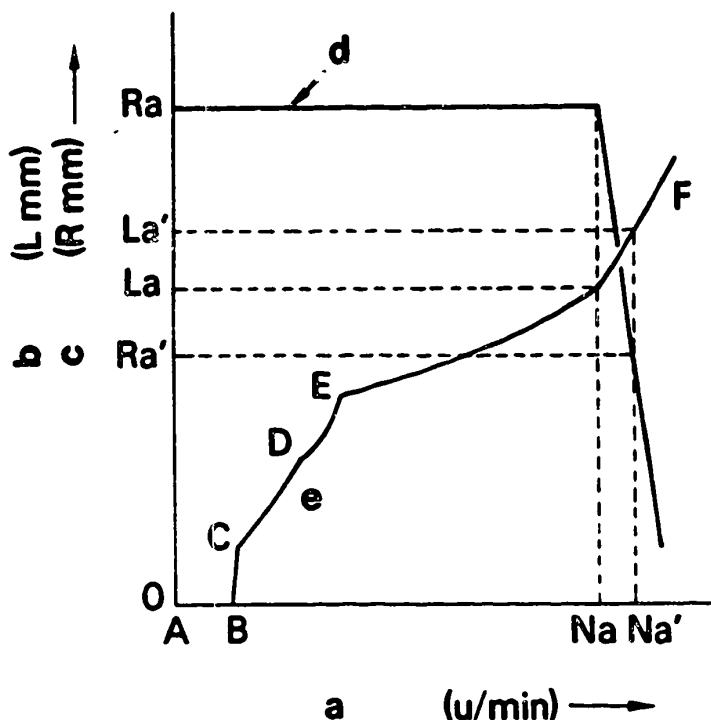
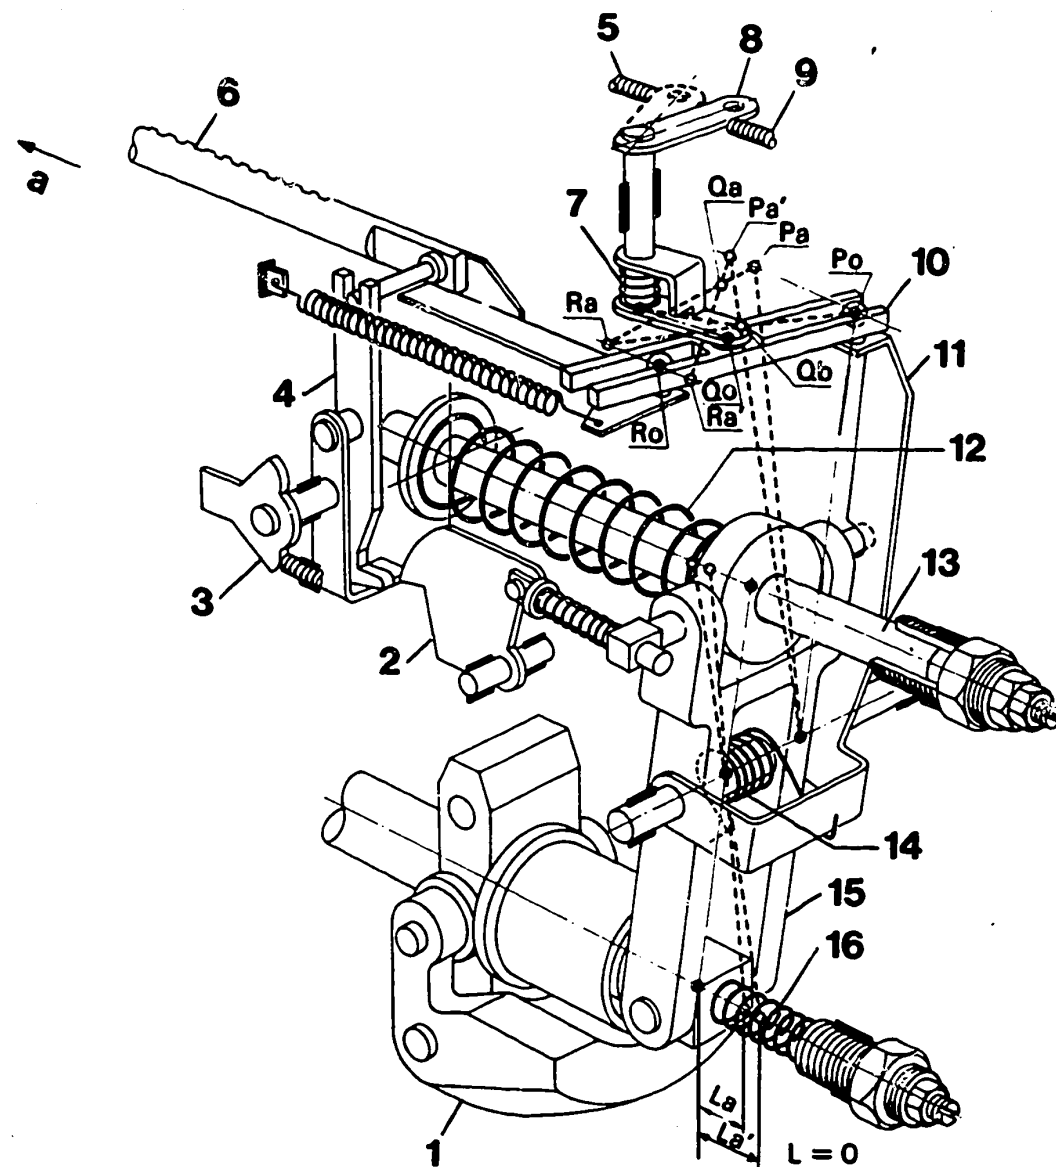

Fig. 7
Fig. 8
Unlike a standard variable-speed governor, which regulates the engine speed in line with the governor-spring force set by way of the control lever, the mechanical governor of type RLD (K) controls the engine speed by adjusting the fulcrum of the variable-fulcrum lever with the control lever. Only a very small force is required with the RLD (K) governor for operating the control lever. Fig. 7 illustrates the relationships between the injection-pump speed, the flyweight stroke and the control-rod travel. Fig. 8 shows how the mechanical RLD (K) governor works.
The idle spring and the governor spring of the RLD (K) governor do not produce any initial adjustment force; if the flyweight stroke is 0 as illustrated in Fig. 7, the initial adjustment force is provided merely by the starting spring. The deflection of the flyweights thus starts at a speed greater than the pump speed (B) which produces the centrifugal force necessary to overcome the initial adjustment force of the starting spring.
If the control lever is moved slightly out of the idle position in the direction of the maximum-speed adjusting screw and the spherical pin of the guide lever is held at "Po", the support lever causes the variable-fulcrum lever to turn about the point "Po" if the fuel-injection pump is not in operation (solid lines in Fig. 8).